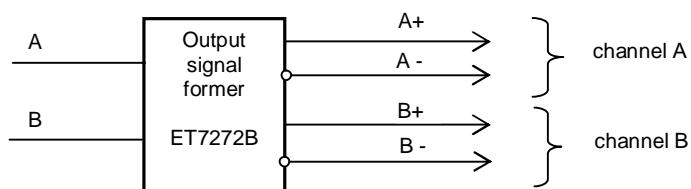

Figure C.1 - LGF-12-003B-100 Hand Wheel Output Channels
13.2.1.2 Hand wheel LGF-12-003B-100 has rectangular pulse output signals (100 pulses per one rotation). The supply voltage of the hand wheel is +5V. This hand wheel has two output channels **A** and **B**. Each of these channels emits differential signals **A+**, **A-**, **B+**, **B-**, as shown in Figure C.1.